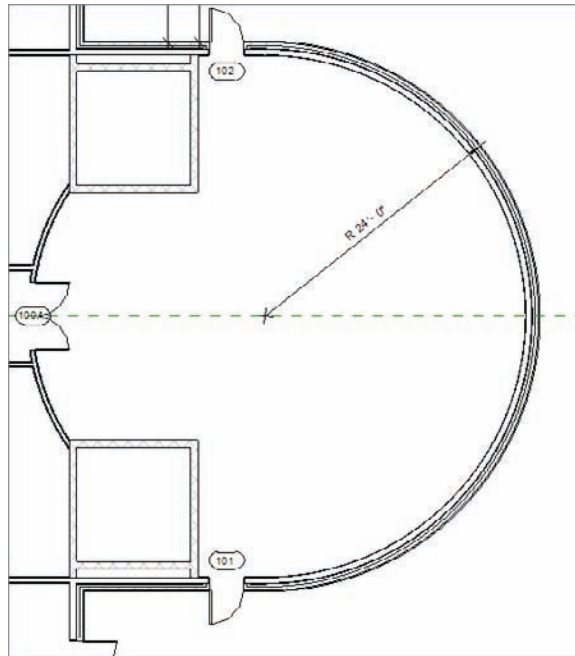

FIGURE 5.47 The radial entry
2. Zoom in on the east wing's radial entry area, where the elevator shafts are, as shown in Figure 5.47.